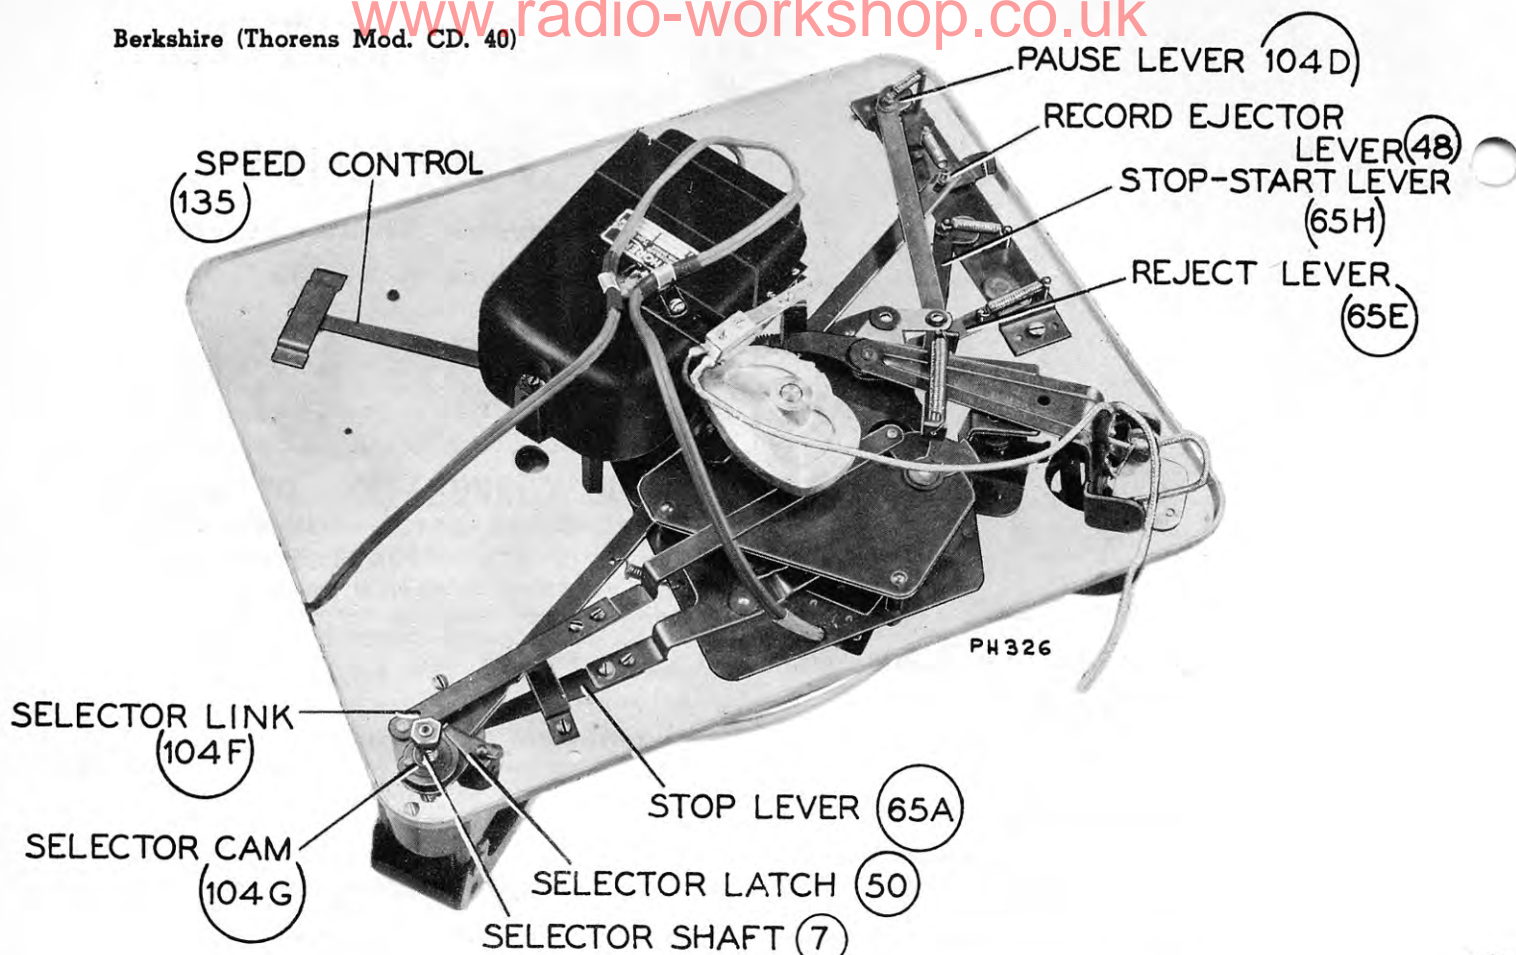

Fig. 1
Record Ejector Lever (48), Fig. 1
Selector Link and Cam (104F and 104G), Fig. 1
Selector Latch (50), Fig. 1
Stop Lever (65A), Fig. 1
Speed Control (135), Fig. 1